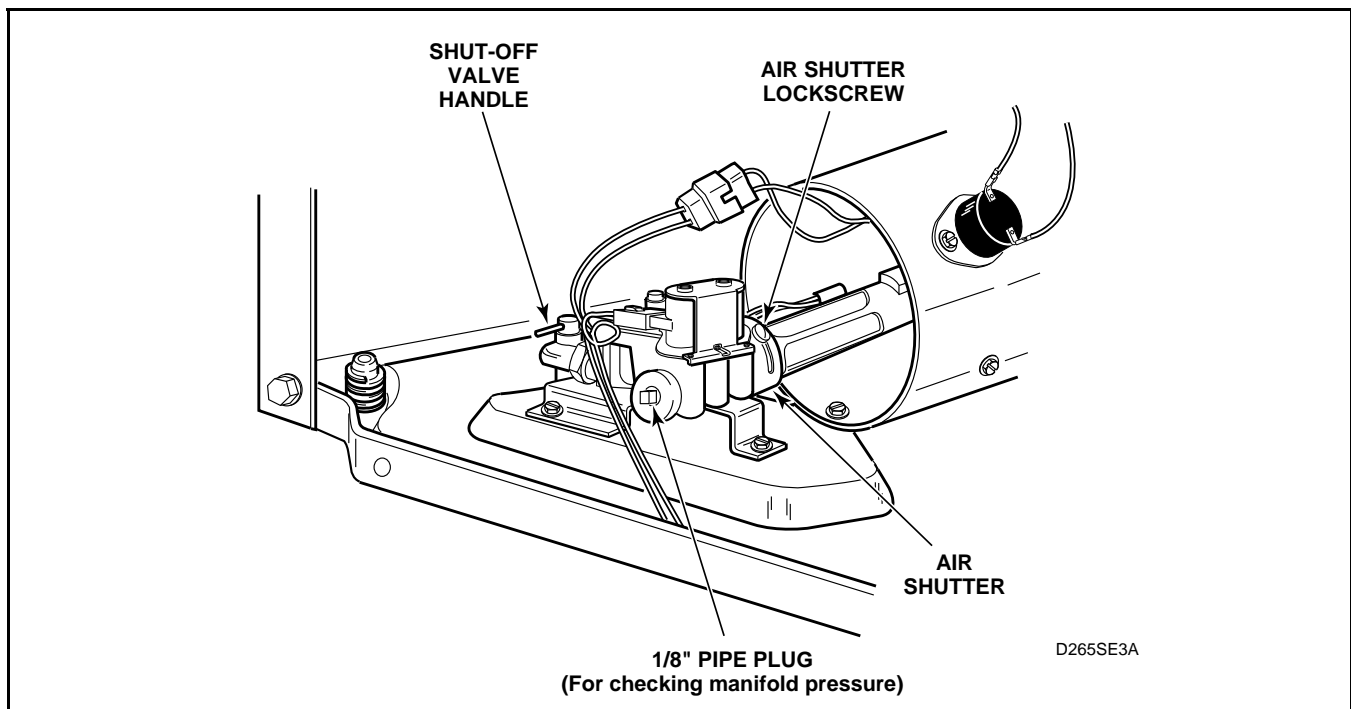

Figure 3
- e. Allow the dryer to operate for approximately five minutes, then loosen the air shutter lock screw. Refer to *Figure 3*.
- g. After proper flame is obtained, tighten air shutter lock screw firmly. Refer to *Figure 3*.